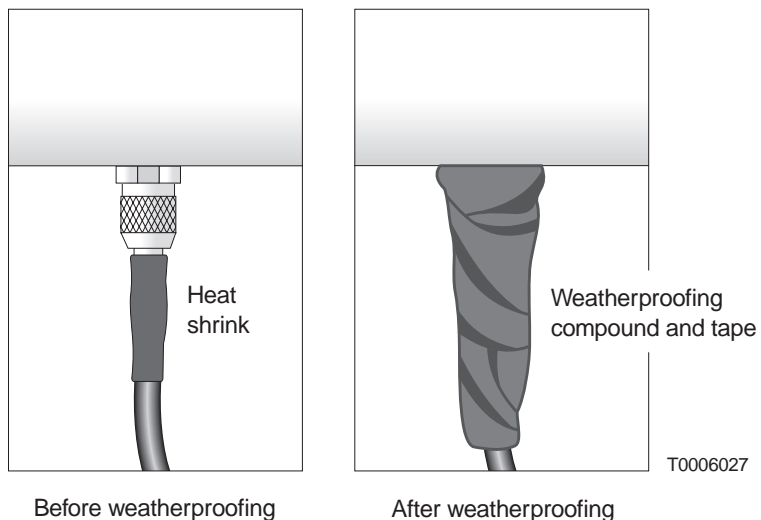

Figure 8-1 Applying weatherproofing compound and tape
See figure 8-1.
3. Smooth the weatherproofing compound, giving the connection a tapered appearance, as shown in figure 8-1.